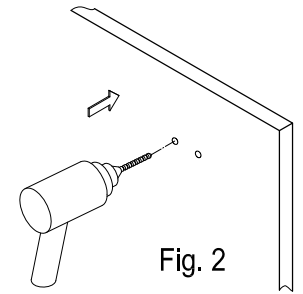

Fig. 2
- Step 4. Remove the template from wall and use a 1/4" drill bit to pre-drill holes in the drywall where pencil marks are drawn (fig 2).
- Step 3. Place the mounting bracket (with the rib facing down) in the center of the pencil outline you just made and mark the location of the mounting screws (fig 2).